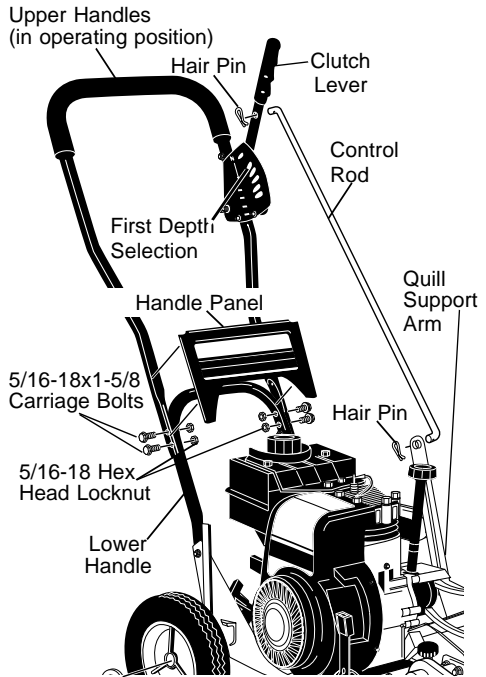

FIG. 6-ASSY
- Place the handle panel on the inside of lower handle. Hold in place while placing the upper handle on the lower handle as shown in **Fig. 6-ASSY**. Align holes in upper handle, lower handle and handle panel, secure in place with four 5/16-18 x 1-5/8 inch carriage bolts and four 5/16-18 hex head locknuts found in parts bag. Locknuts should be to the inside of the handle panel as shown.
- The clutch lever is located on the left hand side of upper handle when properly installed. Insert one end of the control rod from left to right through the hole in the clutch lever and attach with a hair pin found in parts bags. See **Fig. 6-ASSY**.